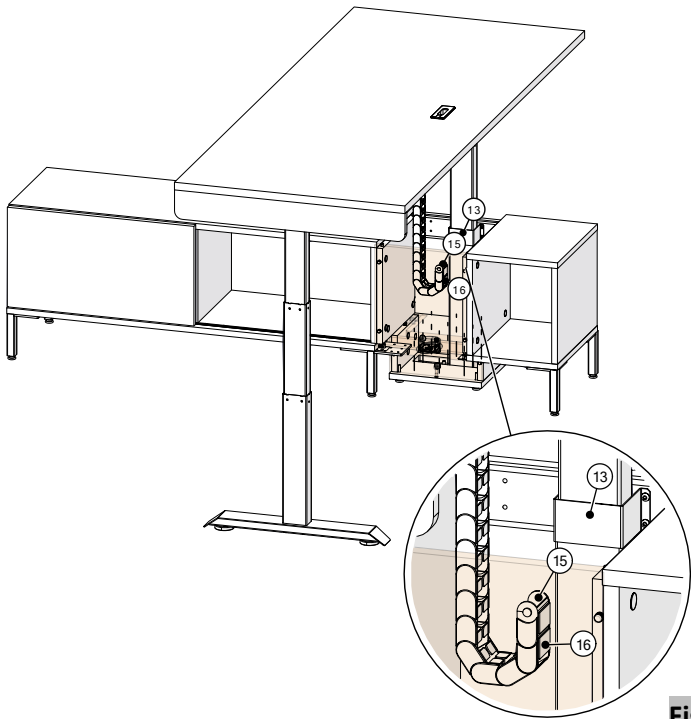

Figure 12
- 17. Attach the other end of the E-chain carrier cable to the “U” bracket using Double Sided Glue Foam Tape, (Figure 12).